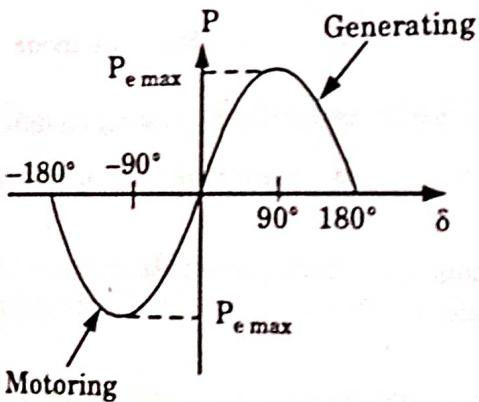

Fig. 2.5.2. Power-angle characteristic
6. This relationship of eq. (2.5.2) is known as the power-angle characteristic of the machine and is plotted in Fig. 2.5.2 for given  $V_t$  and  $E_f$ . The maximum power